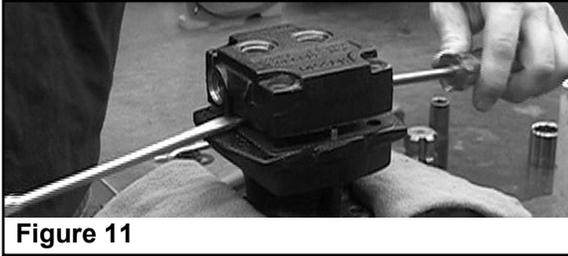

Figure 11
- If Motor End Plate will not lift off easily, use a small screwdriver to carefully pry apart the boss portion of the End Plate and Gerotor Housing until free (See Figure 11). If Gerotor Housing will not lift off easily, carefully pry apart